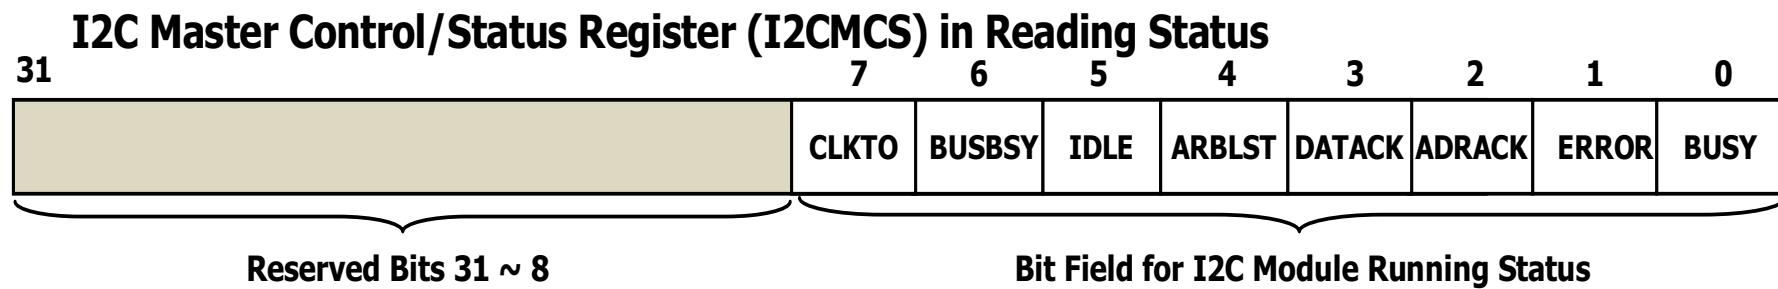

Figure 8.50 The bit configurations in the I2CMCS register (Reading).
- Figure 8.50 shows the bit field configurations in the reading status, and Table 8.24 (next slide) shows the bit field values and functions in the **reading** status.